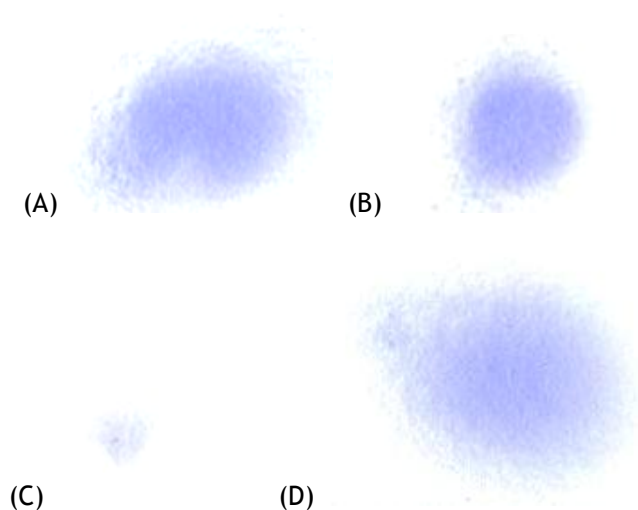

Figure 1. Failure result of the calibration with 50 psi and 6 cm target spacer.
Under the recommended condition of GDS-80 bombardment, the best bombardment result is as in Table 3. Operators should refer to the best condition result to have the perfect tuning of the differential needle valve. In Table 3, the best spot diameter is around 20 mm while using the 6 cm target spacer and 15 mm while using the 3 cm target spacer under the same setting with 4.5 mm barrel at 50 psi and the sample volume is 10 μ l. While using of the 10.0 mm barrel, the spot diameter is the same as the barrel. Operators need to check the sample residues within three continuous shots of the 10.0 mm barrel test. If the uneven calibration results happen as in Table 3 and Figure 1, please follow the notification and tuning method procedures as followed:
1. Rounded shape spots with uneven particle distribution (Figure 1 (B)):
2. Irregular indentation of the spots (Figure 1 (A)):
3. Sample leakage (Figure 1 (C)):